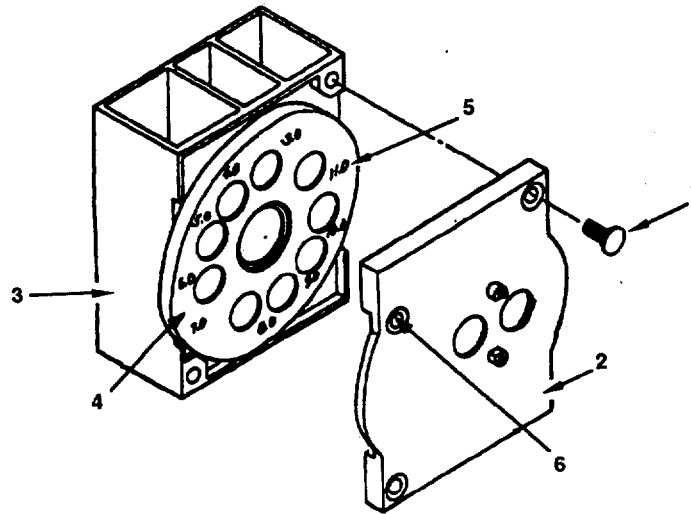
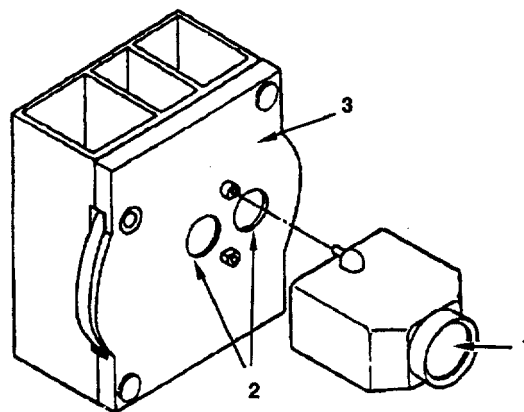
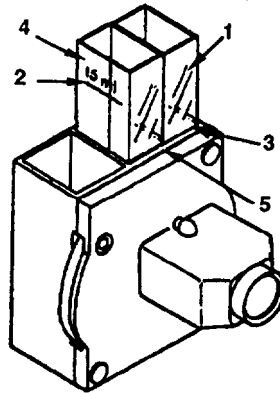
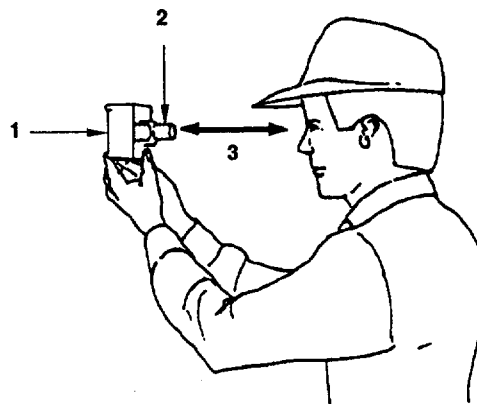

Figure 2-49. Install Chlorine Color Disc.
Figure 2-50. Installation of Prism Eyepiece
Figure 2-51. Preparation of Sample Cells.
Figure 2-52. Viewing Water Samples
- b. Remove two screws (Figure 2-49, 1) and front cover (2) from comparator body (3).
- c. Place chlorine color disc (4) in comparator body (3) with numbers (5) facing outward. Place front cover (2) over chlorine color disc (4). Ensure that number display window (6) is at top of comparator body (3). Install and tighten screws (1).
- d. Place prism eyepiece (Figure 2-50, 1) over sample cell windows (2) on comparator front cover (3).
- e. Rinse and fill two clean 15 ml sample cells (Figure 2-51, 1) to 15 ml mark (2) with water from manual disbursing station.
- f. Hold the comparator with the prism eyepiece (Figure 2-50,1) facing you and insert one of the water filled sample cells (Figure 2-51, 1) into the right- hand sample space (3). Insert the second water filled sample cell (4) into the left-hand sample space (5).
- k. Hold the comparator (Figure 2-52, 1) to your eye and face a good light source (daylight but not the direct rays of the sun, daylight illuminator or artificial light reflected from a white surface). Look through the prism eyepiece (2) at a distance of about 10 inches (3).
- l. Rotate chlorine color disk (Figure 2-49, 4) until a color on the disc matches the color on the left hand sample cell or indicator cell (Figure 2-51, 4). The readings can be made directly from the number display window (Figure 2-49, 6). The value is expressed in milligrams per liter (mg/l).
- m. Record value number shown in number display window (Figure 2-49, 6). If color of indicator cell (Figure 2-51, 4) is between colors on the chlorine color disk (Figure 2-49, 4), the value number must be estimated.
- o. When test has been completed, empty the samples and wash the sample cells; (Figure 2-51, 1 and 4) with clean water.
- p. Remove prism eyepiece (Figure 2-50, 1) and place in kit container.
- q. Remove two screws (Figure 2-49, 1) and front cover (2) on comparator body (3). Remove chlorine color disc (4) and place in kit container.
- r. Place front cover (2) on comparator body (3). Install and tighten screws (1) Place color comparator (1, 2, and 3) in kit container. Fasten latch on kit container.
- c. Using the dropper (1) add the indicator solution to the sample cell (3) in the left-hand cell space (Figure 2-51, 4) only. (Water sample without indicator solution in right opening compensates for color and turbidity.)
- e. In making the pH test be careful to avoid touching the sample or indicator cell (Figure 2-50, 4) with the dropper (Figure 2-52, 1). Never place the dropper on a laboratory bench or other surface because the adherence of the slightest amount of acid or alkali to it will produce incorrect results.
- i. Connect pneumatic coupler (8) to pneumatic coupler (5) on end cap (6). Pressurize hoseline to 80 to 90 psi. Displacement ball (4) will be forced through hose, displacing any residual water. A sound will be heard when the displacement ball (4) reaches receiver (Figure 2-52, 4).